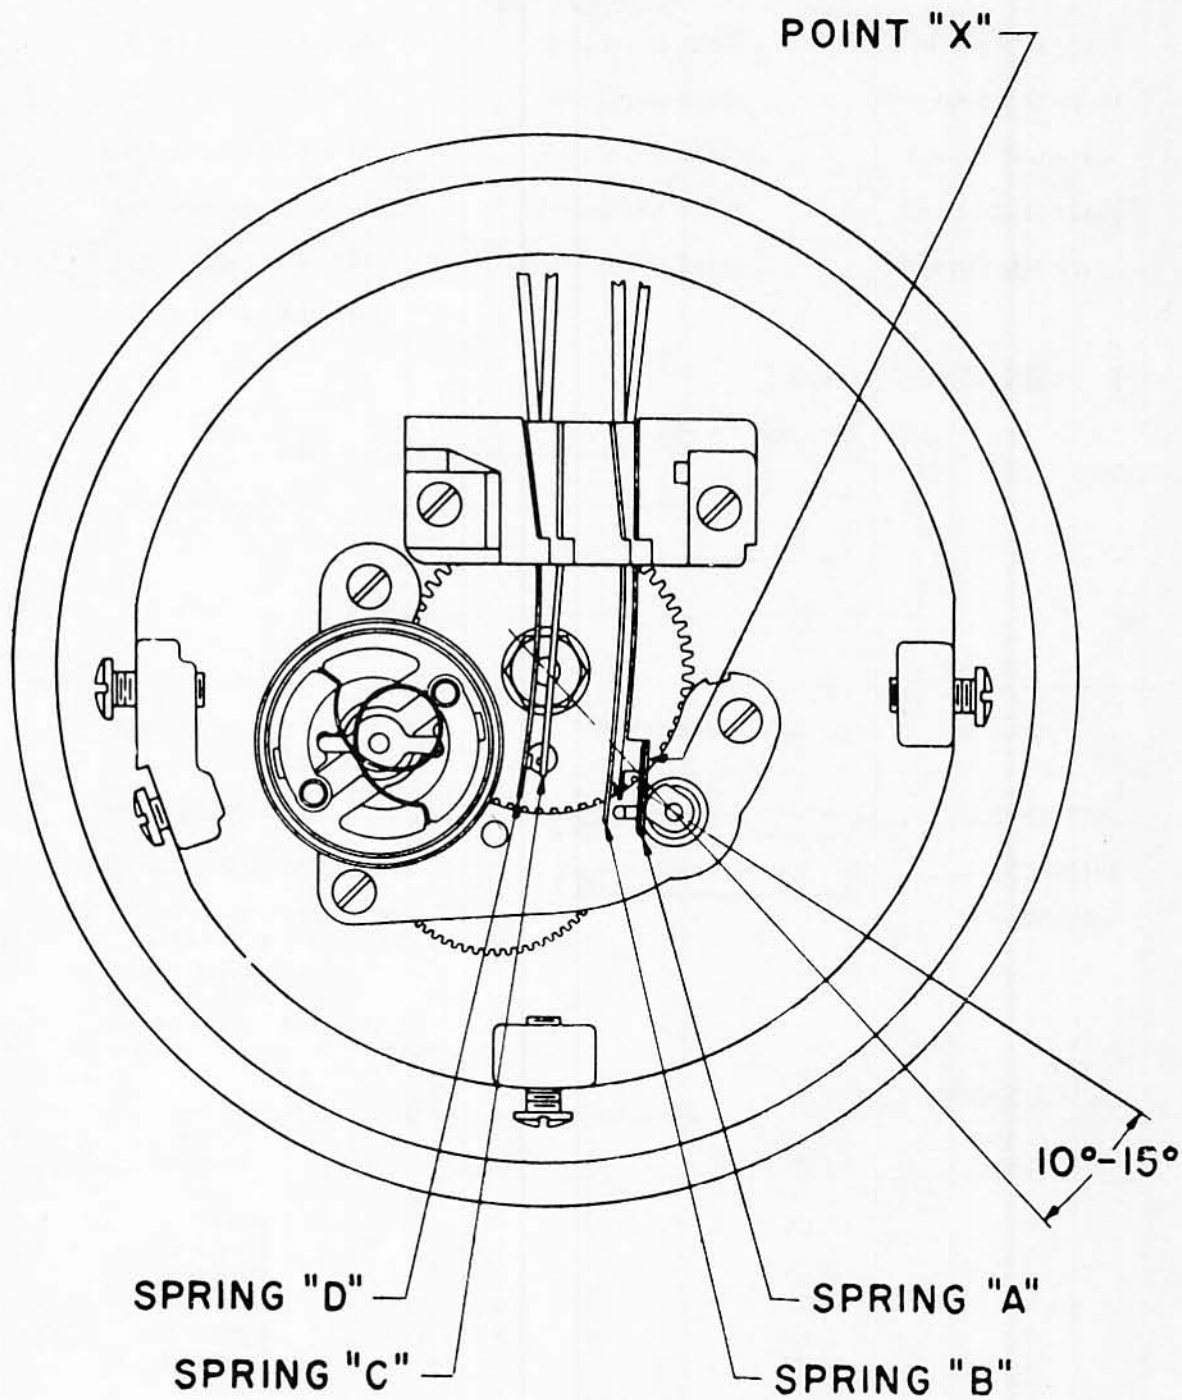

FIGURE 9
During the dial windup, the shunt spring actuator is moved away from spring "D" (Figure 9, Page 24) allowing the shunt springs to close. The pulsing springs remain closed since the locking cam is revolved away from the space between the springs, allowing both pulsing springs to follow the eccentricity of the rotating pulsing cam without opening the contacts. When the finger plate is released, the locking cam returns to its original position between springs "A" and "B", thereby causing the pulsing springs to open once for each revolution of the pulsing cam (total number of pulses equal to the digit dialed). Just before the end of the finger plate return, the shunt spring actuator opens the shunt springs.
E. Gear Train Assembly (4).
Remove the dust cover (13) and the spring assembly (28). Unscrew the two gear train mounting screws (19). Loosen the main gear mounting nut (26) and raise the main gear (5) enough to allow the gear train assembly to clear the mounting bosses. Locking cam (9) and impulse cam (10) can be removed with a slight upward pressure beneath the cams. When replacing the cams and the gear train, set the impulse cam so that its normal position is as shown in Figure 9, Page 24. Be sure to tighten the main gear mounting nut before replacing the mounting screws.
F. Main Shaft (7).
Remove the finger plate and the main spring, the dust cover, the spring assembly, the gear train, and the main gear. Then slide the main shaft out the front side of the dial. Upon replacement, reassemble in the reverse order. Replace the main gear in the position shown in Figure 9.